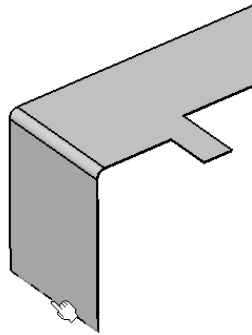

**Figure 15-110** Sheet metal component after creating the flanges
7. Create another flange of 41 mm length on the other edge, as shown in Figure 15-110. For creating the flange, follow the same procedure as explained in the previous steps. Choose the **Reverse Direction** button, if required.